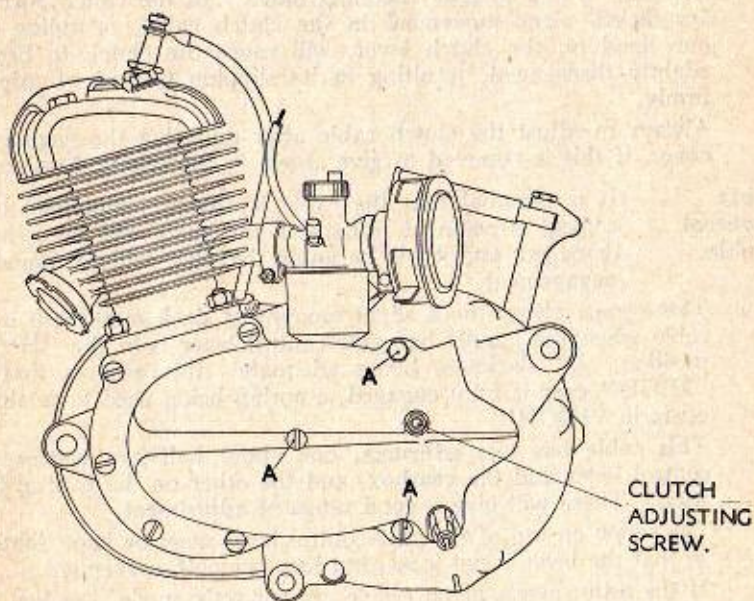

Fig. 2.—Mark 4F engine, left-hand side.
**After the First 500 Miles.** Examine the contact breaker points. Access to these is obtained by removing the three screws marked "A" on Fig. 2, and the cover they secure. The points may require slight adjustment after their initial "bedding-in," and for this refer to page 9.
**Clutch Control Cable.** There should be a very small amount of slack in this cable when the clutch is engaged; about  $\frac{1}{8}$ " to  $\frac{1}{4}$ " is sufficient. The cable is adjusted by means of the screw shown in Fig. 2. (page 7). Screw this in or out until the required amount of slack is obtained, and tighten the locknut afterwards. When the engine is new, fairly frequent adjustments may be necessary owing to the "bedding down" of the clutch surfaces. Insufficient slack movement in the clutch cable, or riding with one hand on the clutch lever, will cause the clutch to become slightly disengaged, resulting in its slipping instead of gripping firmly.